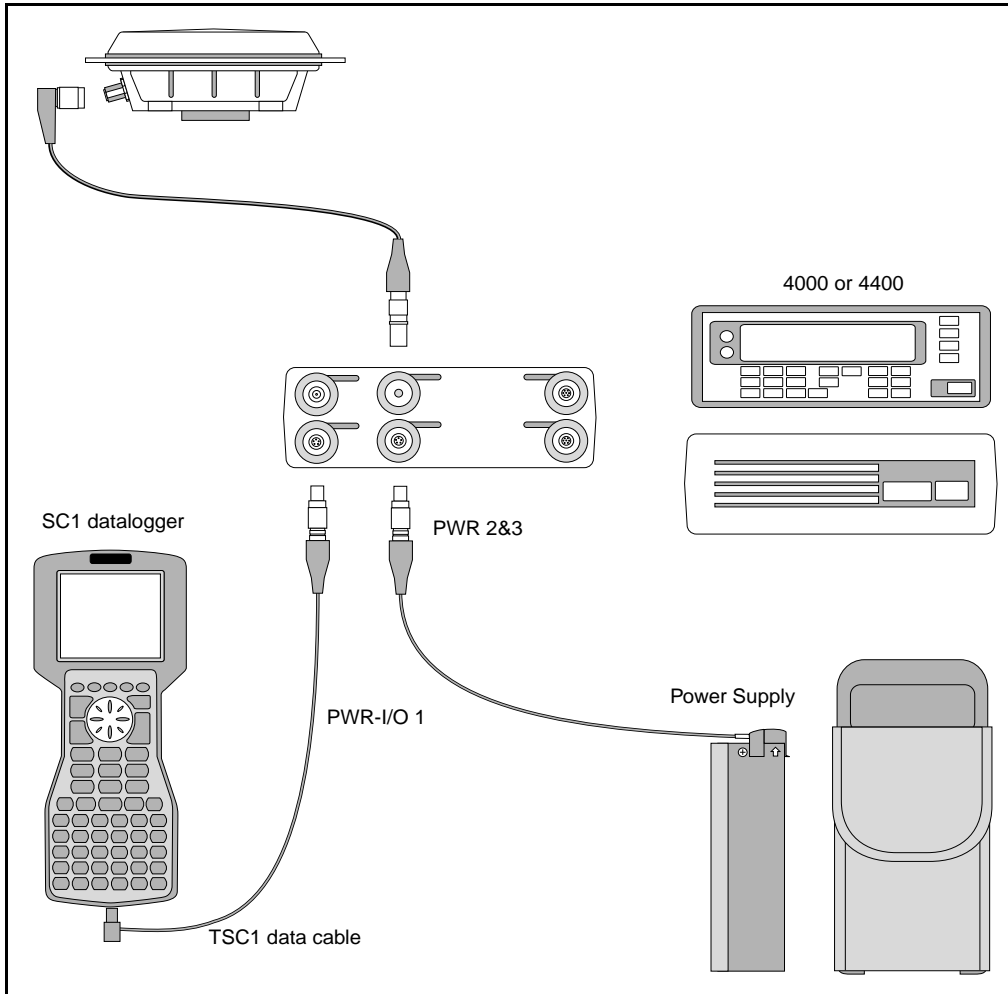

Figure 8.6 RTK base station setup for Asset Surveyor with the Series 4000 and Site Surveyor 4400 receivers
2. Connect the GPS antenna to the GPS receiver port labelled ANTENNA. Use the N-type to 5-pin lemo cable (P/N 14553-00), as shown in Figure 8.6.
2. Connect the GPS antenna to the GPS receiver port labelled ANTENNA. Use the N-type to lemo cable (P/N 14553-00) as shown in Figure 8.6.